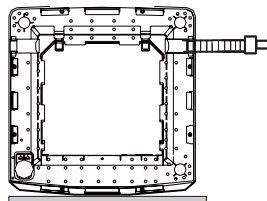

Figure 2
2. Dismantle the bottom plate. (as indicated in Figure 2)